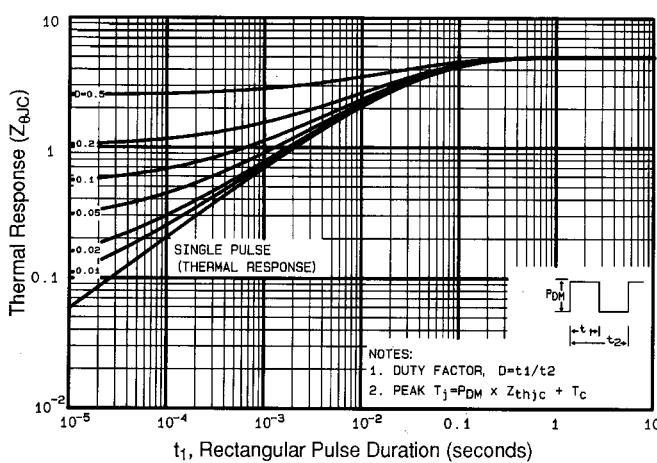

Fig 11. Maximum Effective Transient Thermal Impedance, Junction-to-Case
① Repetitive rating; pulse width limited by max. junction temperature (See Figure 11)
③ $I_{\text{SD}} \leq 2.2\text{A}$, $dI/dt \leq 65\text{A}/\mu\text{s}$, $V_{\text{DD}} \leq V_{(\text{BR})\text{DSS}}$, $T_J \leq 150^\circ\text{C}$
② $V_{\text{DD}} = 50\text{V}$, starting $T_J = 25^\circ\text{C}$, $L = 62\text{mH}$